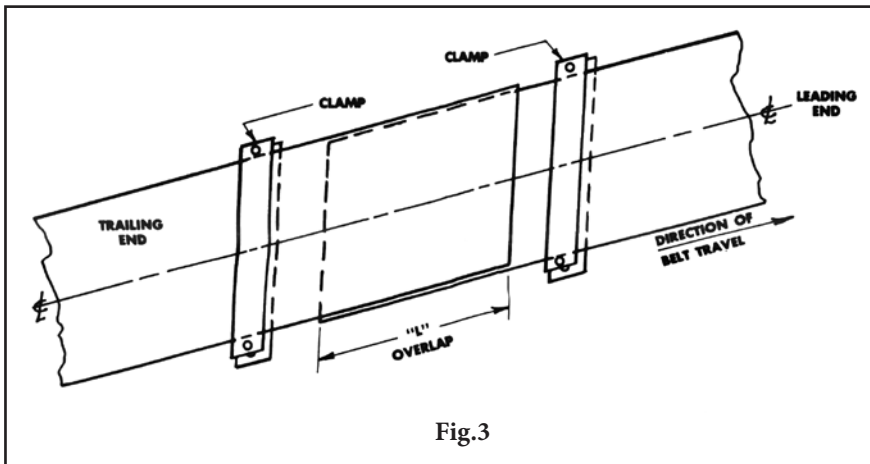

Fig.3
2. Pull belt up to desired position around pulleys and clamp as shown in Fig. 3. Put clamps far enough apart allowing plenty of room for length "L" of V-shaped Wedlok splice. It is recommended that a wooden base plate, such as a piece of 3/4" (19 mm) plywood, be placed under the belting as a flat level bench on which to do all layout and cutting.